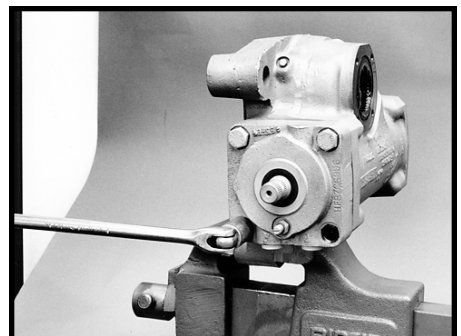

Figure 60
22. Remove the four valve housing bolts (1) with a 13/16 inch socket. SEE FIGURE 60.